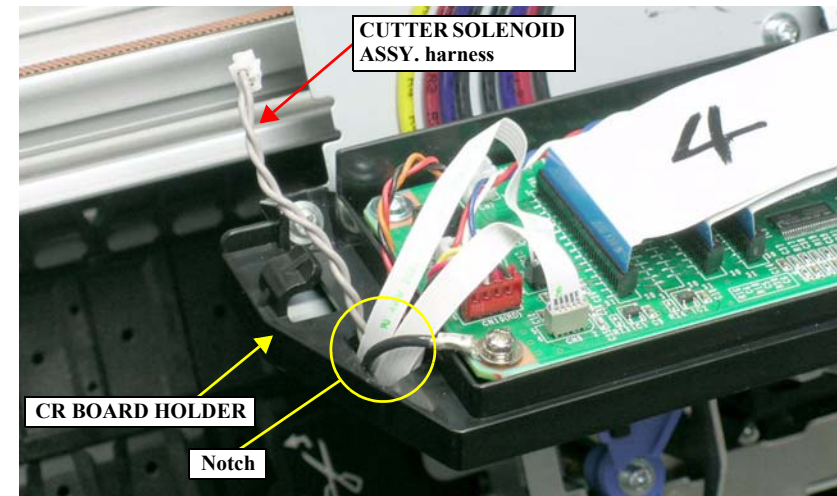

Figure 4-67. Pulling Out the CUTTER SOLENOID ASSY. Harness
2. Pull out the harness of the CUTTER SOLENOID ASSY. through the notch of the CR BOARD HOLDER. *See Figure 4-67.*